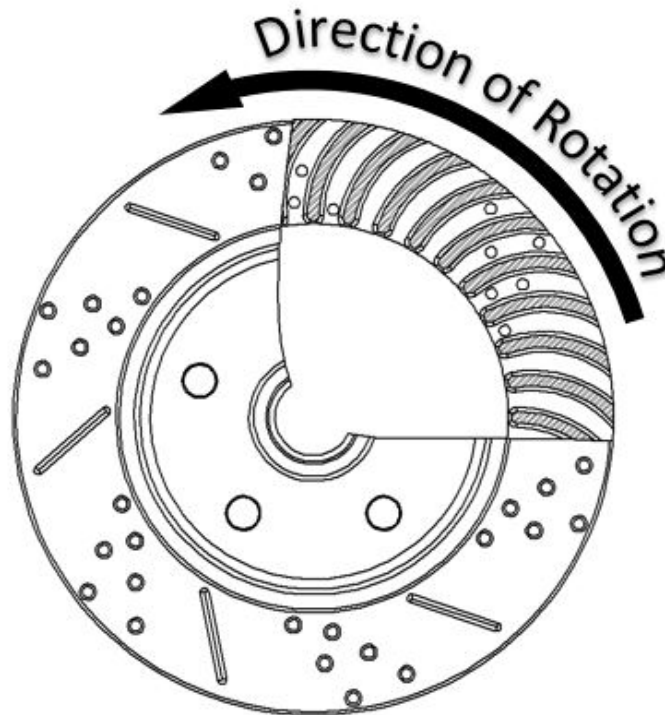
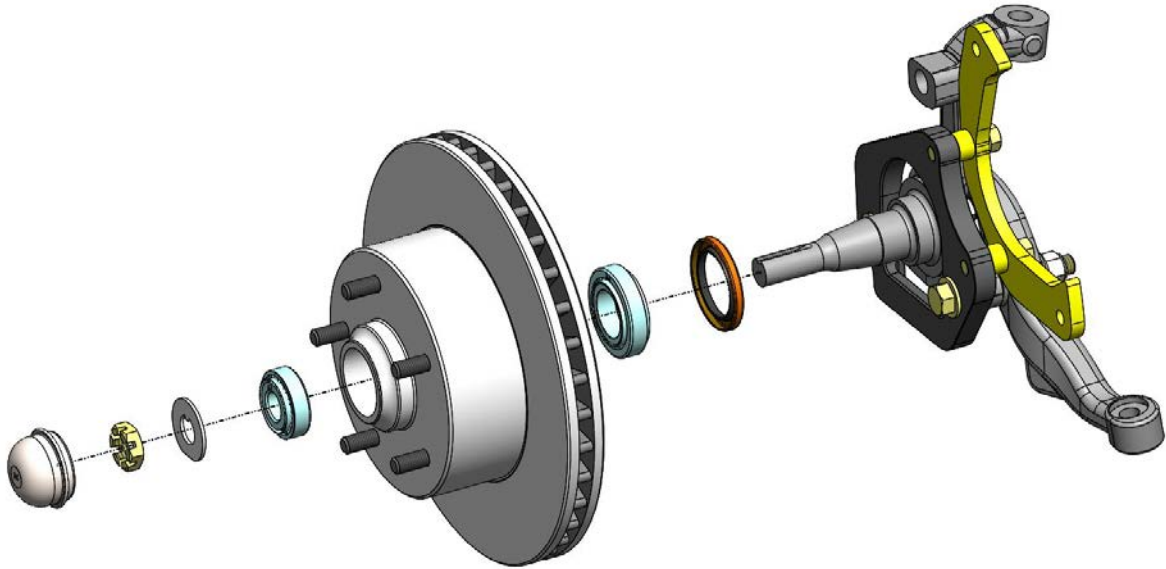

Figure 5 – Rotor Orientation
Figure 6 - Rotor Installation
7. Slide the rotor onto the spindle. The inner wheel bearing and grease seal should be installed at this point. With the rotor fully pushed onto the spindle, install the outer wheel bearing followed by the keyed washer and the spindle nut. When tightening the spindle nut, tighten to 5-10 ft/lbs. Loosen the nut and tighten again using the same 5-10 ft/lbs. Do this a couple of times spinning the rotor to fully seat the wheel bearings onto the spindle. Loosen the nut a final time and re-tighten to remove all play. Tighten approximately an additional 1/16th of a turn to give the appropriate pre-load and line up the cotter pin hole. Install the cotter pin to secure the nut followed by the grease cap. Figure 6 on the next page shows the rotor installation. **IMPORTANT:** If using slotted and drilled rotors, pay close attention to Figure 5 below for proper rotor placement on the driver and passenger side.